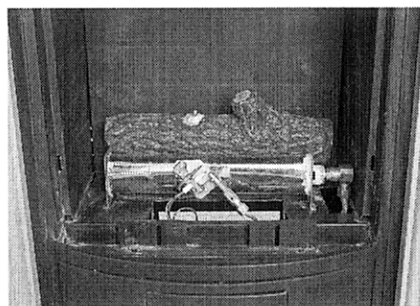

Figure 7
- Fasten decorating logs 1,2 onto the correspondent angle iron (Figure 7 and 8).